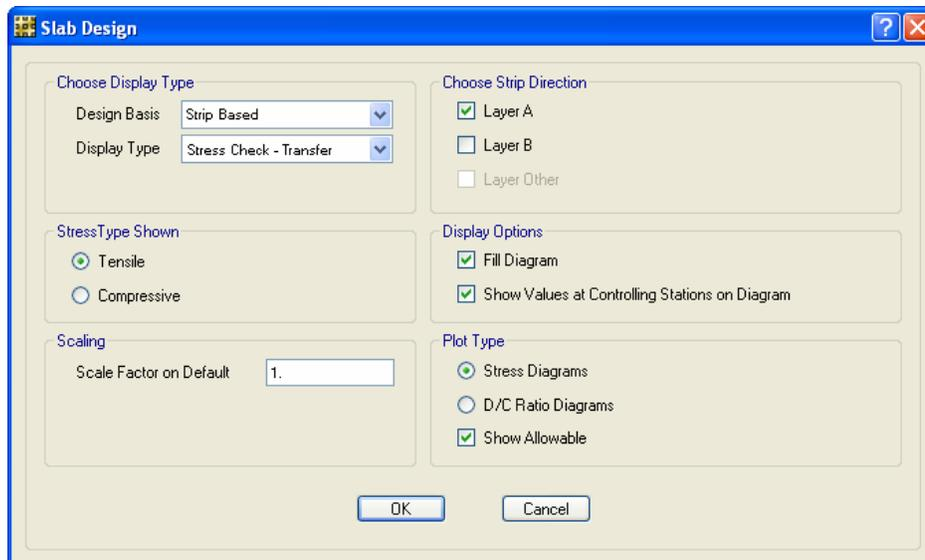

Figure 90 Slab Design form
- A. Click the **Display menu > Show Slab Design** command to access the Slab Design form shown in Figure 90.